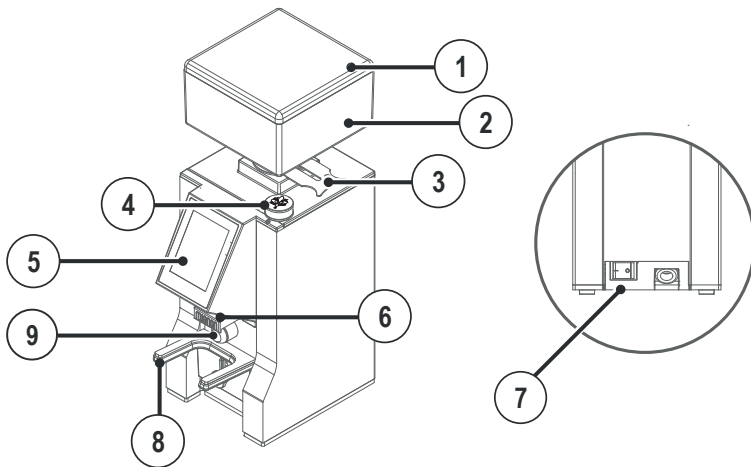
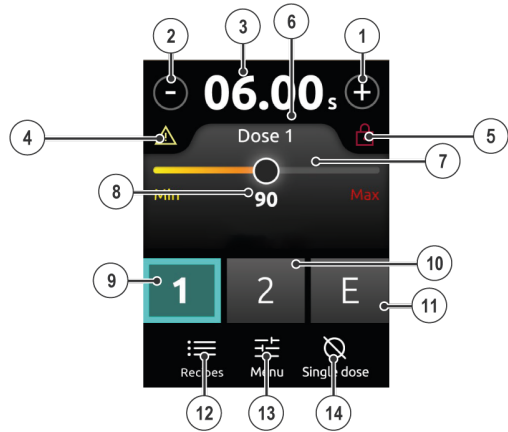

Fig. 5.1 - Description of the appliance
Fig. 5.2 - Main page
For the appliance parts, see Fig. 5.1.
For the description of the display, see Fig. 5.2.
As the knob is rotated, on the main page you can see the distance between the burrs; this distance is associated with the type of grinding selected (8 - Fig. 5-2).
- Bring the switch to the ON position (7 - Fig. 5.1).
- Use the relative buttons (9,10, 11 - Fig. 5.2) to select the dose to be dispensed.
- Rest the portafilter basket on the fork (8 - Fig. 5.1), making sure the fork is exactly underneath the dispensing nozzle (6 - Fig. 5.1).
- Press the selected dose button again, or the front button (9,10, 11 - Fig. 5.2) (9 - Fig. 5.1).
In the stop condition, the grinding time on the display (3 - Fig. 5.2) flashes.
To bring the dose time back to its initial value, press on the flashing grinding time (3 - Fig. 5.2) for 2 seconds.
From the main page (Fig. 5.2), you can access the following functions:
To reduce or increase the selected dose, press the + or - button on the main page (1, 2 - Fig. 5.2). The variation for the single dose is 0.1 seconds.
To enable the continuous variation (increase) of the dose time, press and hold one of the two buttons + or - (1, 2 - Fig. 5.2).
To lock dose dispensing time adjustment, press + and - simultaneously (1, 2 - Fig. 5.2) for 2 seconds. If dose dispensing time adjustment is locked, the  icon (5 - Fig. 5.2) will appear on the display and the + and - buttons (1, 2 - Fig. 5.2) will be disabled.
To release dose dispensing time adjustment, press + and - simultaneously (1, 2 - Fig. 5.2) for 2 seconds.
To select the required dose, press button 1, 2 or E (9, 10, 11 - Fig. 5.2).